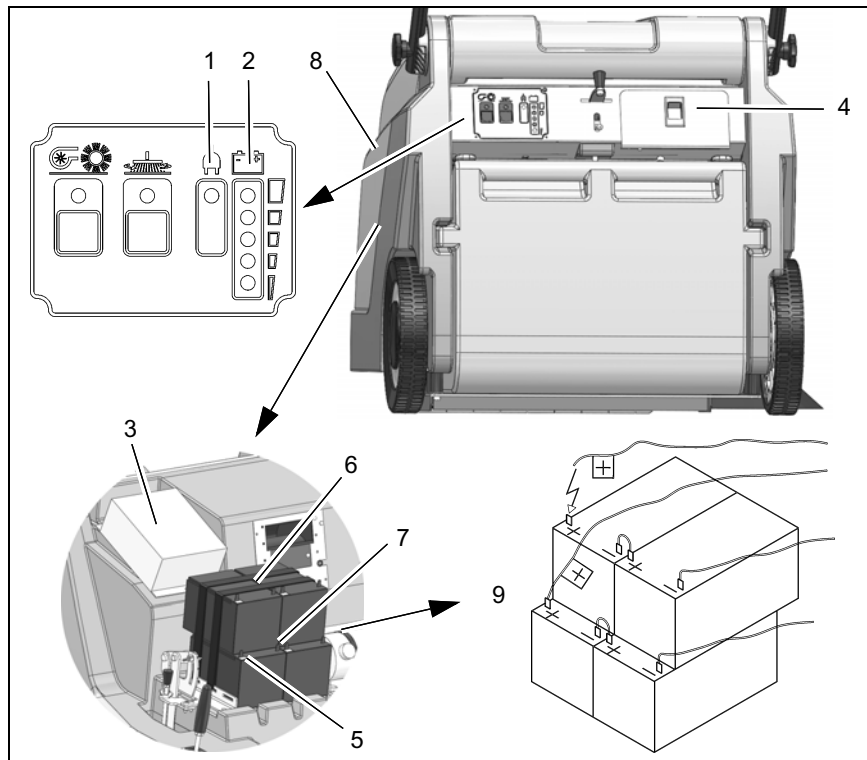

Fig.7
The charge control indicator (Fig. 7/2) indicates the charge status of the batteries during operation. When the batteries are discharged, the red LED flashes. The machine functions are restricted. Charge the batteries immediately!
The charge control indicator (Fig. 7/2) indicates the charge status of the batteries during operation. The batteries must be charged immediately the red LED lights up. The batteries (Fig. 7/7) are charged using the integrated battery charger (Fig. 7/3). The charger is connected by means of the power cable (Fig. 7/4). While the battery is being charged, the battery indicator on the charger (Fig. 7/1) lights up.
4. Slacken the lashing straps (Fig. 7/6).
5. Disconnect the connection cable (Fig. 7/5) from the batteries and remove the batteries.
4. Tighten the lashing straps (Fig. 7/6).
5. Connect the battery poles to the connection cables enclosed in the accessories kit in accordance with the connection plan (Fig. 7/9).
6. Close the hood (Fig. 7/8) and lock in place with the locking bolt on the frame.